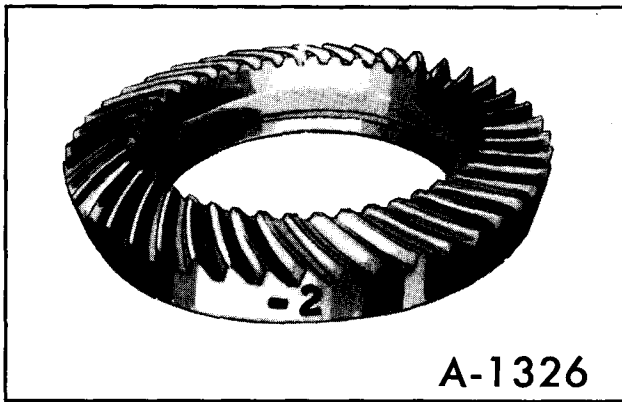

Figure 38—Location of Pinion Marking
a. If a service gear set or a production gear set with no paint marking, on outer circumference of ring gear is being used, the correct shim will have a thickness equal to the indicator gauge reading found in Step 9. (figure 38)
Ring gear painted “+” (plus), the shim thickness indicated by the dial indicator on the pinion setting gauge must be **INCREASED** by the amount painted on the ring gear. (figure 38)
Ring gear painted “-” (minus), the shim thickness indicated by the dial indicator on the pinion setting gauge must be **DECREASED** by the amount painted on the ring gear. (figure 38)